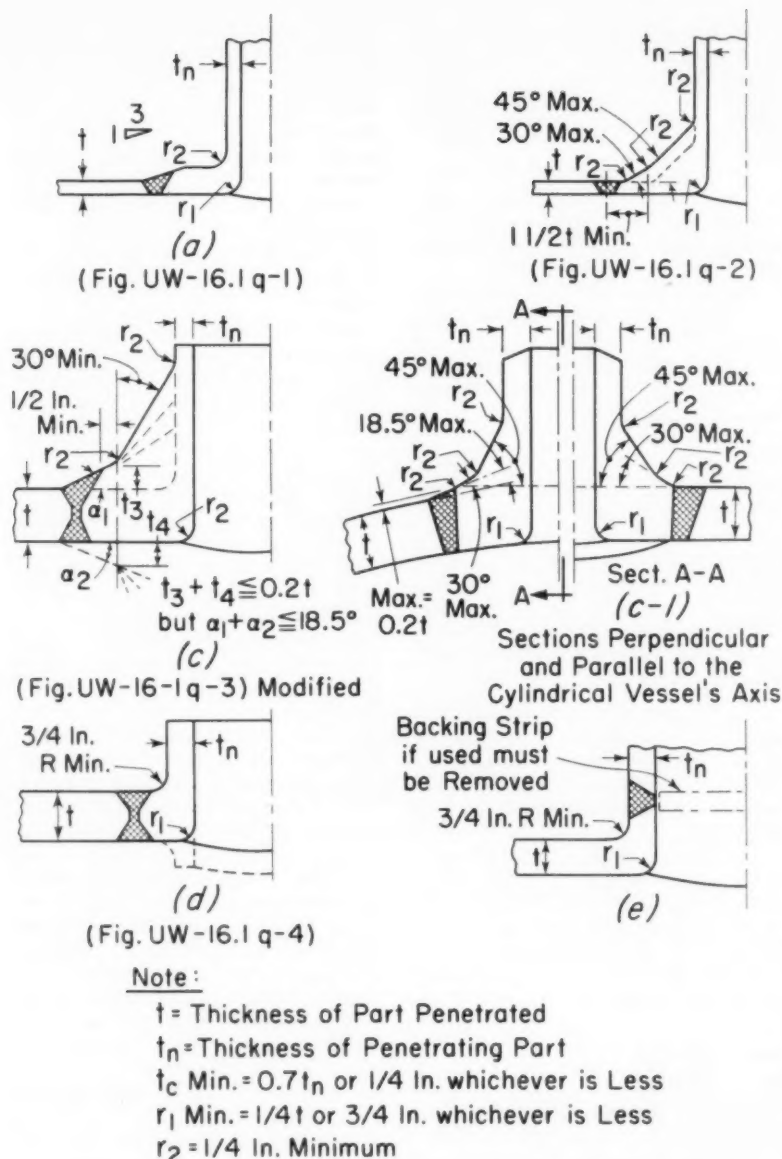

Fig. 1 Acceptable welded nozzle attachments readily radiographed to Code standards
(1) It is the intent that full penetration welds as shown in Figs. 1, 2, and 3 be used, except as otherwise provided in 6(a)(2) and 6(a)(3), for the purpose of achieving continuity of metal and facilitating the required radiographic examination. When all or part of the required compensation is attributable to the nozzle, the nozzle shall be attached by full penetration welds through either the vessel or the nozzle thickness or a combination of both including any weld metal used for compensation.
(b) **Butt Welded Attachments**—Nozzles may be attached by full penetration butt welds through either the vessel or the nozzle wall as shown in Fig. 1. The butt weld shall be so located that it may be radiographically examined to the standards in Par. UW-51 or Par. P-102.